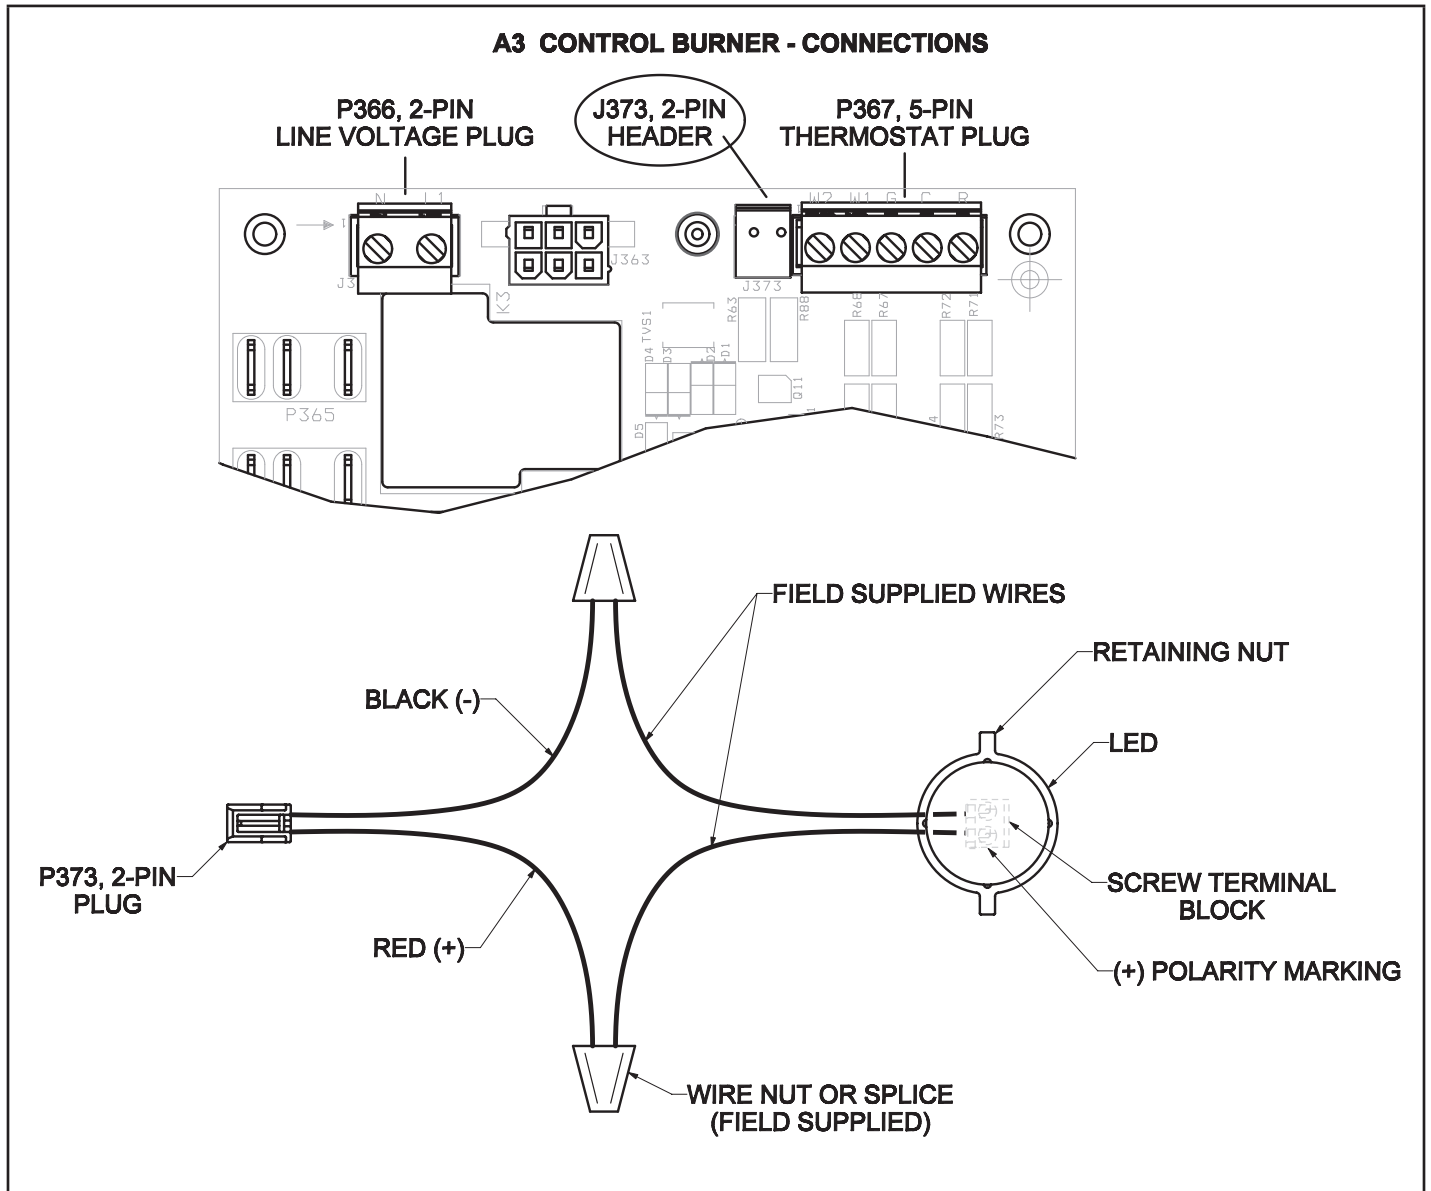

FIGURE 4
- 7 - Connect field-supplied wires to the wires that were disconnected from the LED screw terminal block. Secure with field-supplied wire nuts or splices. See figure 4.
- Note - LED is polarity sensitive so connection polarity must be followed closely. See figure 4.*